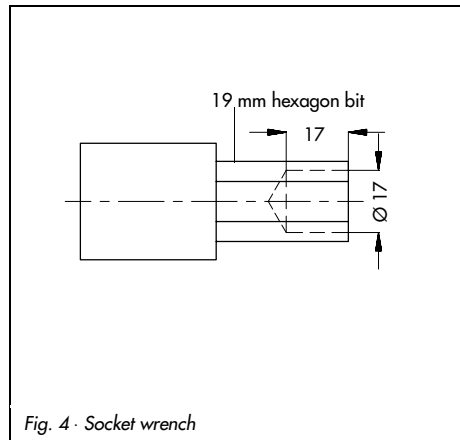

Fig. 4 · Socket wrench
This wrench can be made, for instance, from a GEDORE screwdriver bit (IN 19-19) by boring a 17-mm hole with a diameter of 17 mm into the 19-mm hexagon bit as shown in Fig. 4.
2. Unscrew the mounting part (8) including the baffle plate by means of a socket wrench (see Fig. 4, Order No. 1280-3001) and pull it out of the valve body.